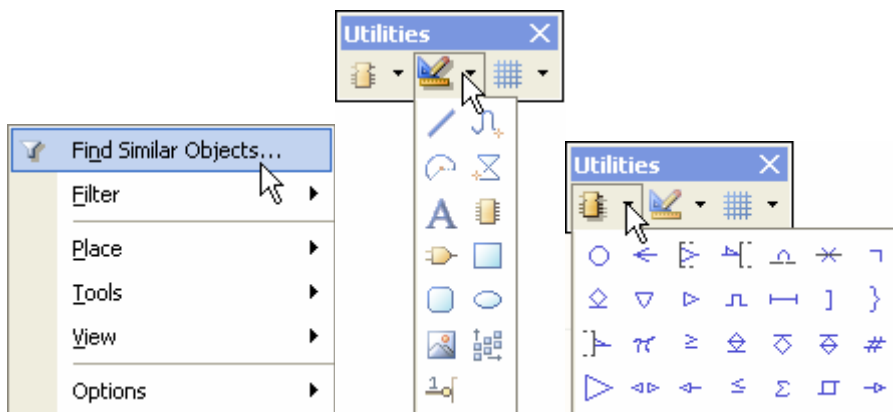

Figure 3. Library Editor Toolbars and right click command options
- The Schematic Library Editor has a right-click menu, a **Utilities** toolbar and a **Mode** toolbar, as shown in Figure 3.